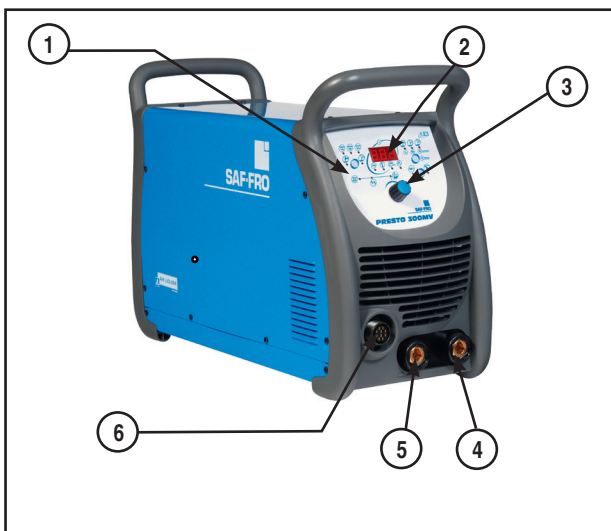
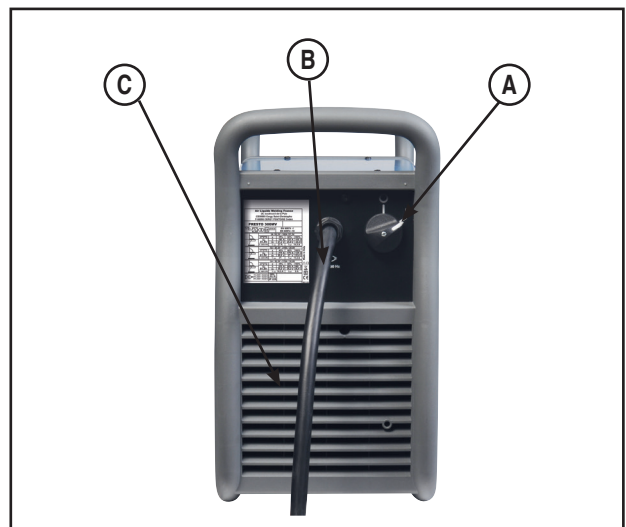
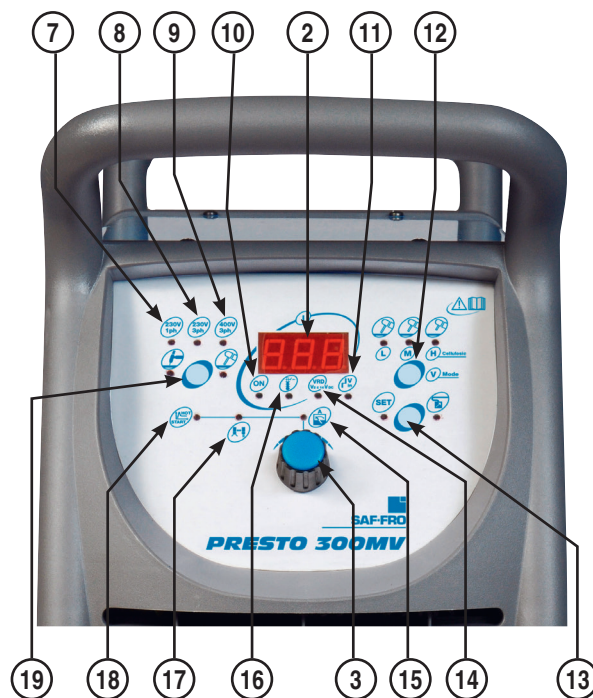

Fig.2
Fig.3
Fig.8
- C. Cooling fan: the unit has a F.A.N. (Fan As Needed) circuitry inside that automatically turns the fan ON or OFF. This feature reduces the amount of dirt which can be drawn inside the machine and reduce power consumption. When the machine is turned ON (Ref.A-Fig.3) the fan will turn ON. The fan will continue to run whenever the machine is welding. If the machine does not weld for more than five minutes, the fan turns OFF.
- a. For stick DCEP (Direct Current Electrode Positive) connect the electrode holder cable to positive weld output terminal (Ref.4-Fig.2).
- b. For stick DCEP (Direct Current Electrode Positive) connect the work lead to negative weld output terminal (Ref.5-Fig.2) and the clamp near the welding zone.
8. **Turn ON the machine (Ref.A-Fig.3)** and select the Electrode welding mode (Ref.19-Fig.8).
10. Adjust the arc length (Ref.12-Fig.8): if the arc length is too long it will cause spatters and small fusion of the welding piece. If the arc length is too short the arc heat will be insufficient causing the electrode to stick to the work piece; the right balance of the arc length in relation to the welding application and type of electrode must be found.
11. VRD (Voltage Reduction Device): as default the device is OFF in MMA, to activate it, press once for 5 sec. the key (Ref.12-Fig.8). With the VRD function ON at the end of welding the unit is OFF (stand-by), to automatically restart when the electrode gets in touch with the work piece.
12. Pre-set the welding current on a range from min. to max. available (its value depends on the supply voltage available in the area and by the welding process) using the Encoder Control knob (Ref.3-Fig.8)
13. To use remote control: connect the remote control connector to the 10 pins receptacle on the front panel (Ref.6 – Fig.2) and enable it with the key (Ref.13-Fig.8). In this condition the current can be adjusted independently of the setting made on the unit, but attention: the max welding current by remote control depends on the value set on the front panel with the Encoder Control Knob (Ref.3-Fig.8).
4. Connect the work cable to positive output terminal (Ref.4-Fig.2) and the clamp near the welding zone.
5. Connect the torch cable to negative output terminal (Ref.5-Fig.2) and fit the required electrode and gas-guide nozzle on the torch (check the condition of the infusible electrode).
8. Turn ON the machine (Ref.A-Fig.3). The unit will start up with the same setting of the previous parameters.
9. Select TIG LIFT welding mode (Ref.19-Fig.8).
11. Pre-set the welding current on a range from min. to max. available (its value depends on the supply voltage available in the area and by the welding process) using the Encoder Control knob (Ref.3-Fig.8)
12. To use remote control: connect the remote control connector to the 10 pins receptacle on the front panel (Ref.6 – Fig.2) and enable it with the key (Ref.13-Fig.8). In this condition the current can be adjusted independently of the setting made on the unit, with the exception of the maximum welding current which will be that set with the Encoder Control Knob (Ref.3-Fig.8).
The **HUMAN INTERFACE (HI)** is located on the front panel of the unit (Ref.1-Fig.2) and is the mind of machine.
IMPORTANT: WHEN THE MACHINE IS POWERED (REF.A-FIG.3) LIGHTS UP THE GREEN POWER ON LED (REF.10-FIG.8) IN CONJUNCTION WITH ONE OF THE INPUT VOLTAGE LEDS (REF.7,8,9-FIG.8) TO INDICATE THE CHARACTERISTIC OF THE MAINS CONNECTED TO THE UNIT.
The following pre-settings and visualizations are available (see Fig.8):
Ref.15. With red LED lit, use the Encoder control knob to adjust the welding current. The ammeter (Ref.2) displays the pre-set value and the amperage while welding. The welding current LED (Ref.15-Fig.8) normally is turned ON; it's OFF only when the Hot Start or Arc Force function is activated.